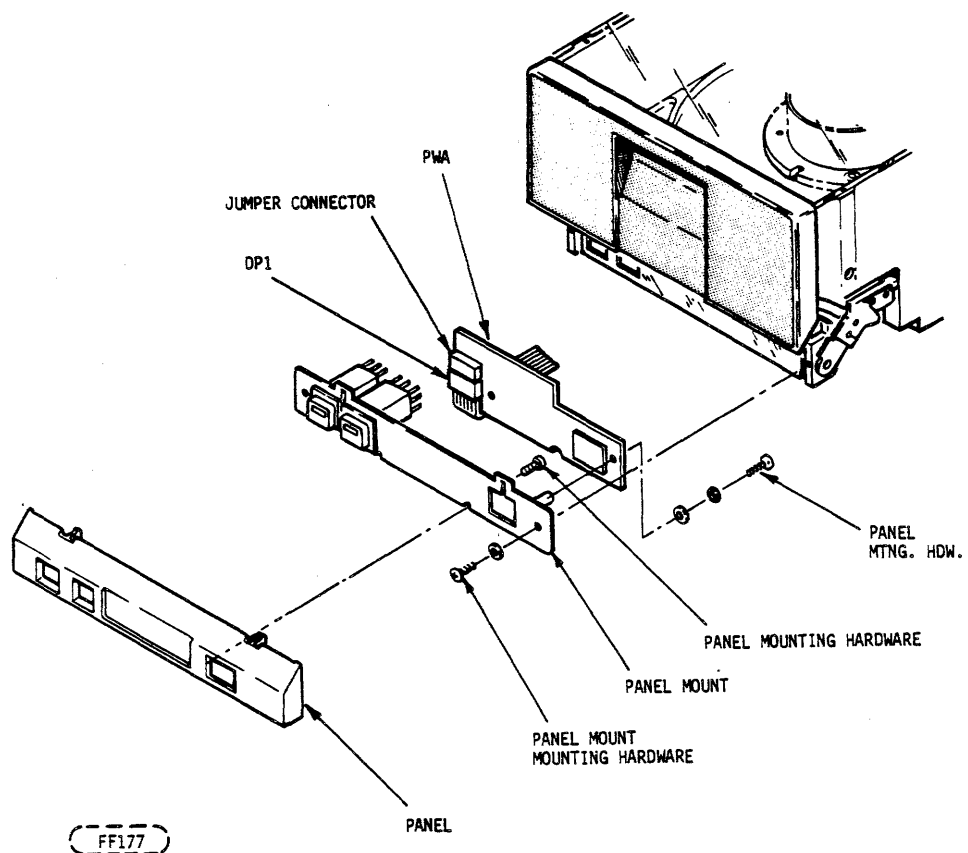

FIGURE 6-3. STATUS DISPLAY OPTION
e. Status Display Option (Refer to Figure 6-3).